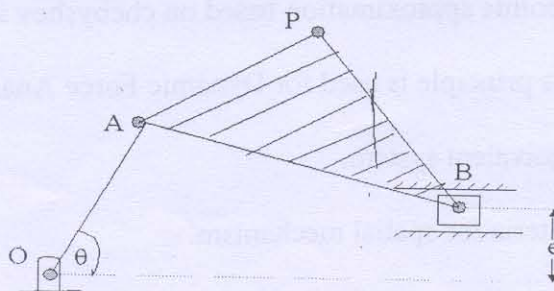

Fig.1
- Q2 (a) Fig.1 shows an offset slider crank mechanism. Determine displacement, velocity and acceleration of coupler point P and slider B for  $\theta = 50^\circ$ , OA=50, AB=120, e=20, AP=BP,  $\angle APB = 90^\circ$  assume  $\omega_a = 1 \text{ rad/sec}$ . Use analytical method. 12
- Q4 (b) In Quick return mechanism shown in figure 1. the force 1 KN acting perpendicular to DB at its mid point in inward direction. Determine the static equilibrium torque on link OA by virtual work method.